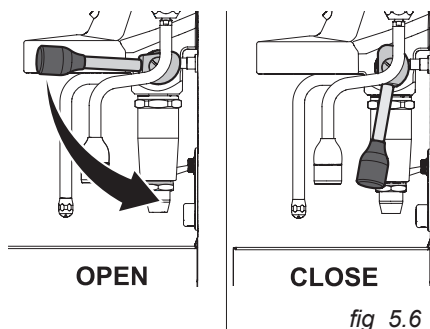

fig. 5.6
- Lower the coffee dispensing lever completely to stop the water flow (fig. 5.6).